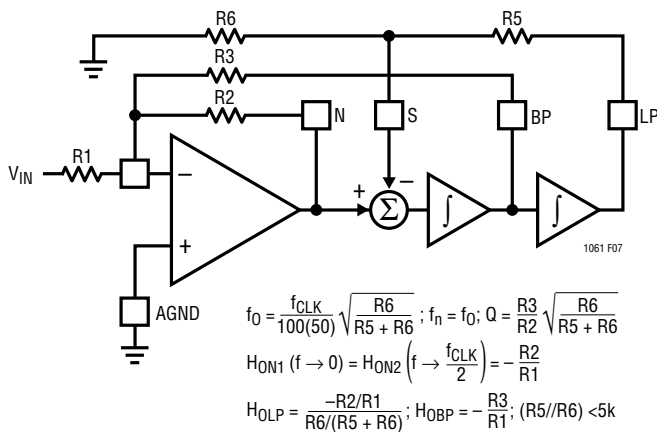
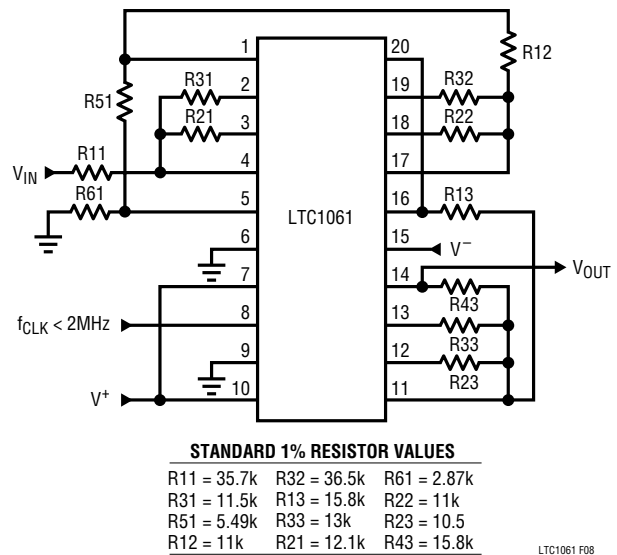

Figure 7. Mode 1b: 2nd Order Filter Providing Notch, Bandpass, Lowpass
Figure 8. 6th Order Chebyshev, Lowpass Filter Using 3 Different Modes of Operation for Speed Optimization
2. Secondary Modes: Mode 1b – It is derived from Mode 1. In Mode 1b, Figure 7, two additional resistors, R5 and R6, are added to attenuate the amount of voltage fed back from the lowpass output into the input of the S_A (S_B) switched capacitor summer. This allows the filter clock-to-center frequency ratio to be adjusted beyond 50:1 (or 100:1). Mode 1b still maintains the speed advantages of Mode 1. Figure 8 shows the 3 lowpass sections of the LTC1061 in cascade resulting in a Chebyshev lowpass filter. The side A of the IC is connected in Mode 1b to provide the first resonant frequency below the cutoff frequency of the filter. The practical ripple, obtained by using a non-A version of the LTC1061 and 1% standard resistor values, was 0.15dB. For this 6th order lowpass,